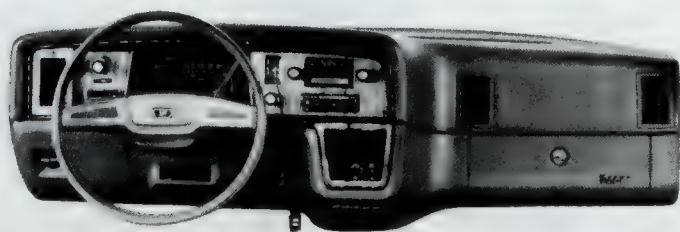

Fig. 3C-1 Instrument Panel Assembly
- (1) Disconnect battery negative cable.
- (2) Remove instrument cluster bezel.
- (3) Remove radio control knobs and retaining nuts, if equipped.
- (4) Remove overlay attaching screws and pull overlay away from instrument panel (fig. 3C-2).